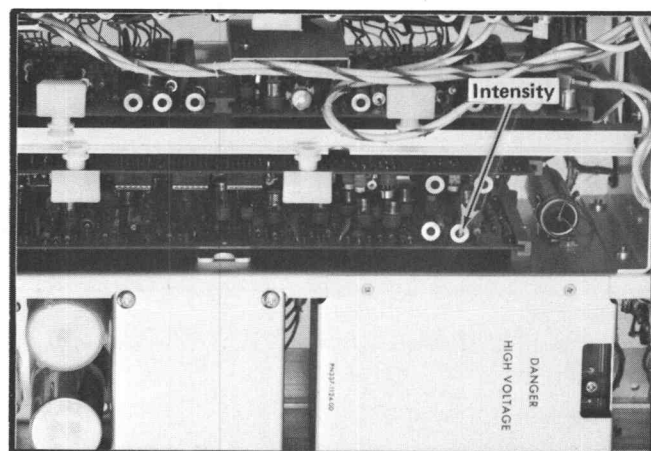

Fig. 5-24. Adjustments used when setting video amplitude.
e. Adjust R1066 (Intensity in Fig. 5-24) for a video amplitude of about 1.5 V.